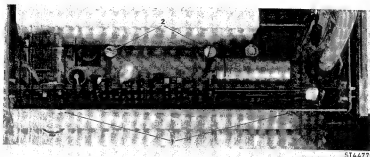

Fig. 5.5. Dismantling the battery power supply
- Remove the two screws from the battery power supply cover (Fig. 5.5, item 1).
- Remove the two screws (Fig. 5.5, item 2).